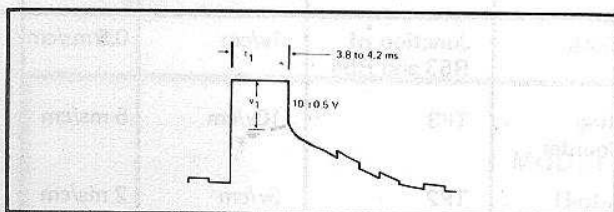

Figure 4-10. TP3 - RING COUNTER WAVEFORM.
4-54. The signal at TP3 (Figures 4-10 and 4-11) is convenient for evaluation of the ring counter. The signals at the collectors of Q20 through Q24 are identical, but are displaced in time.
- In the waveform shown in Figure 4-10,  $t_1$  should be 3.8 to 4.2 milliseconds. If  $t_1$  is not correct, check clock signal duration. It should be  $4 \pm 0.2$  milliseconds duration.